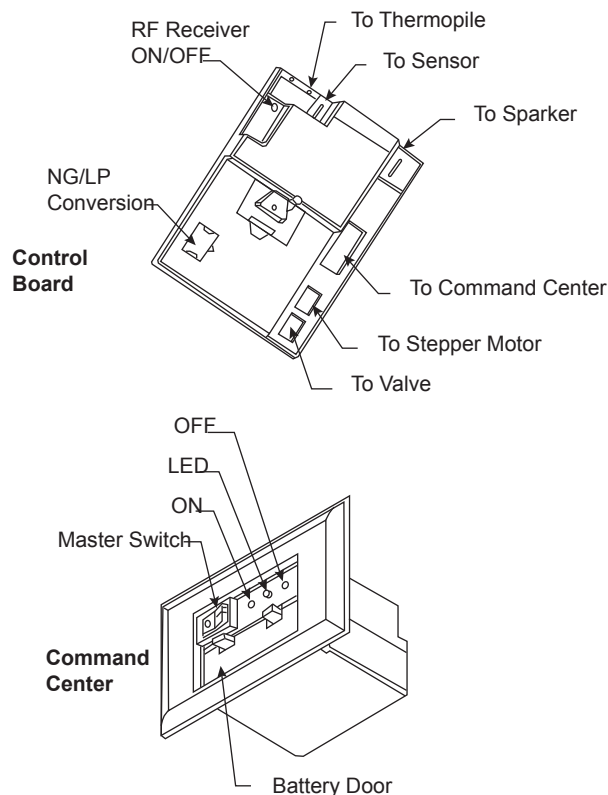

Figure 60 - Signature Command System Components
1. The RF receiver button located on the Control Board must be in the on position before the learn function can begin. Use paper clip to depress button. One beep for RF receiver ON or two beeps for RF receiver OFF will be given as confirmation. Refer to Figure 60 for location.